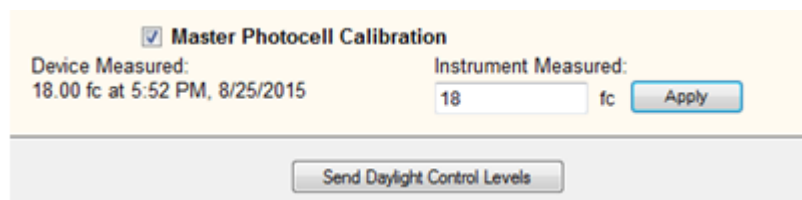

Figure 60. Photocell Calibration
3. During the daylight hours, use a light meter to collect a light level reading to represent what the photocell on the control module, now acting as the **Master Photocell**, measures. You should position the sensor on the light meter instrument near the Master Photocell at an angle and direction similar to that of the Master Photocell sensor. See Figure 60 for a placement example. Enter your reading in the **Instrument Measured** field, as close as possible to the time when you took the measurement. Click **Apply**.